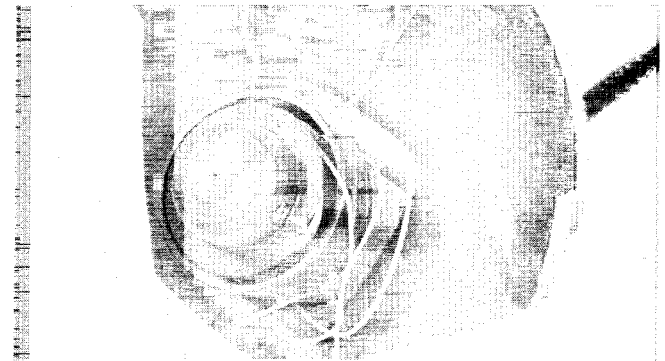

Figure 2.0
2.0 CHECK FOR LINE/GRASS STOPPING HEAD ROTATION (fig. 2.0)